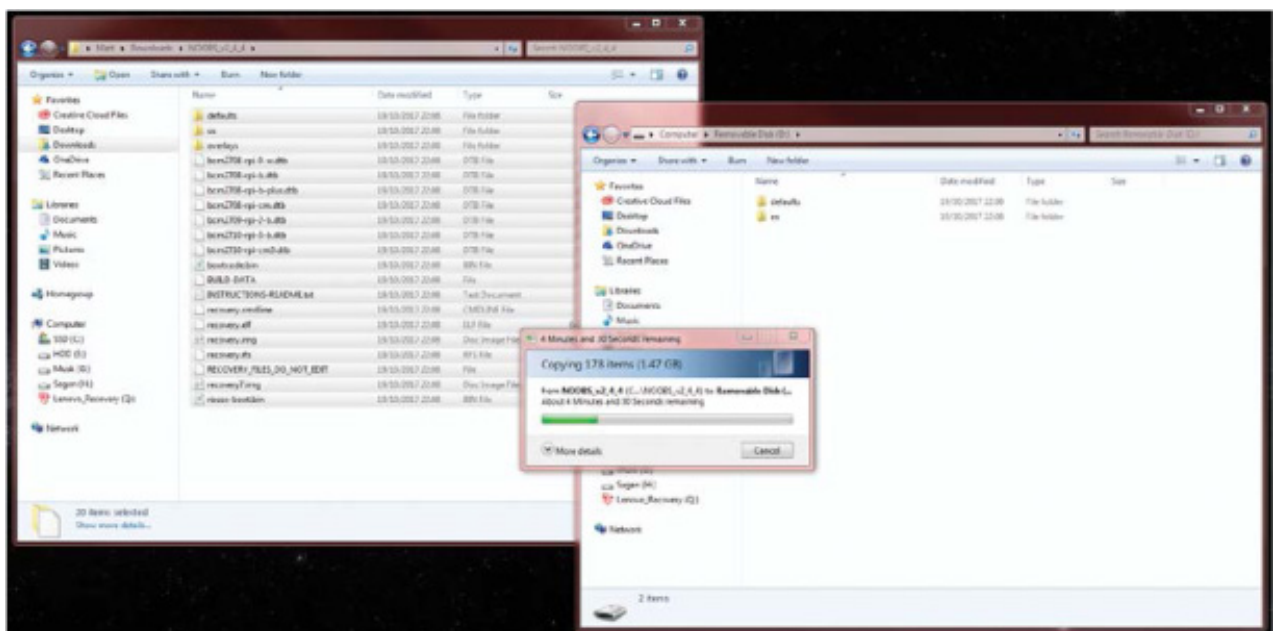

FIGURE 1-10 Transferring all of the extracted files to the microSD card
3. Finally, navigate to your newly downloaded NOOBS files and copy and paste them onto your microSD card. You can do this by highlighting them all with your mouse, copying them, and then pasting them onto your formatted card, as shown in Figure 1-10.